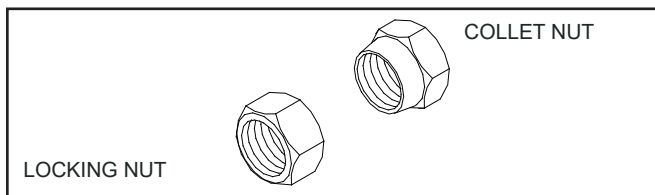

Figure 3. Collet Nut & Locking Nut
3. Install the moveable collar followed by the collet nut (see Figure 3). Tighten the collet nut hard (not wrist tight).